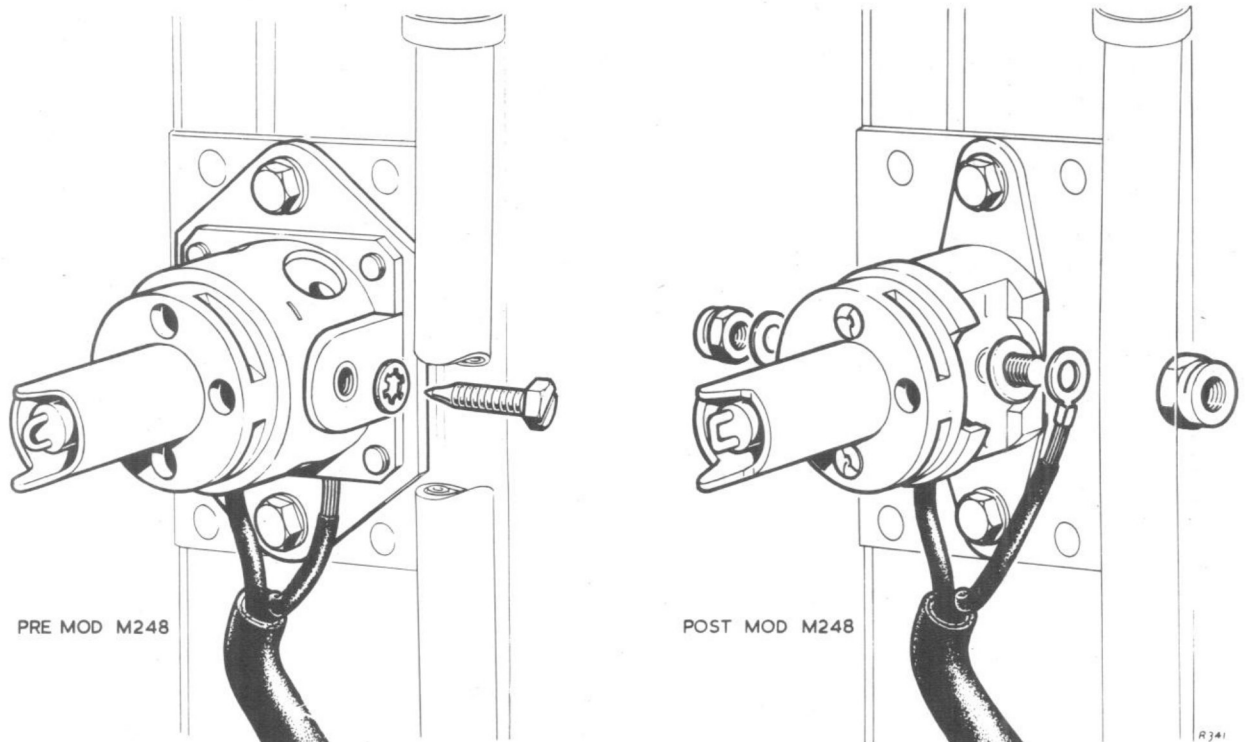

Fig. 2. Detector harness fastening
9. ◀ Four detector heads are fitted to each unit; three are located on the rear end panel and the fourth on the top rail immediately above the support casing. Detector heads to Pre Mod. M248 standard retain the harness by means of a grub-screw clamping the cable within a bore (Fig. 2). Heads to the post modification standard retain ring terminals, fitted to the ends of the harness, on a stud and are secured with a plain washer and stiff nut. Different size studs are fitted to the head to make it impossible for the positive and negative leads to be connected in reverse. ▶
#### Removing the cartridge thermostats and clips (fig. 2)